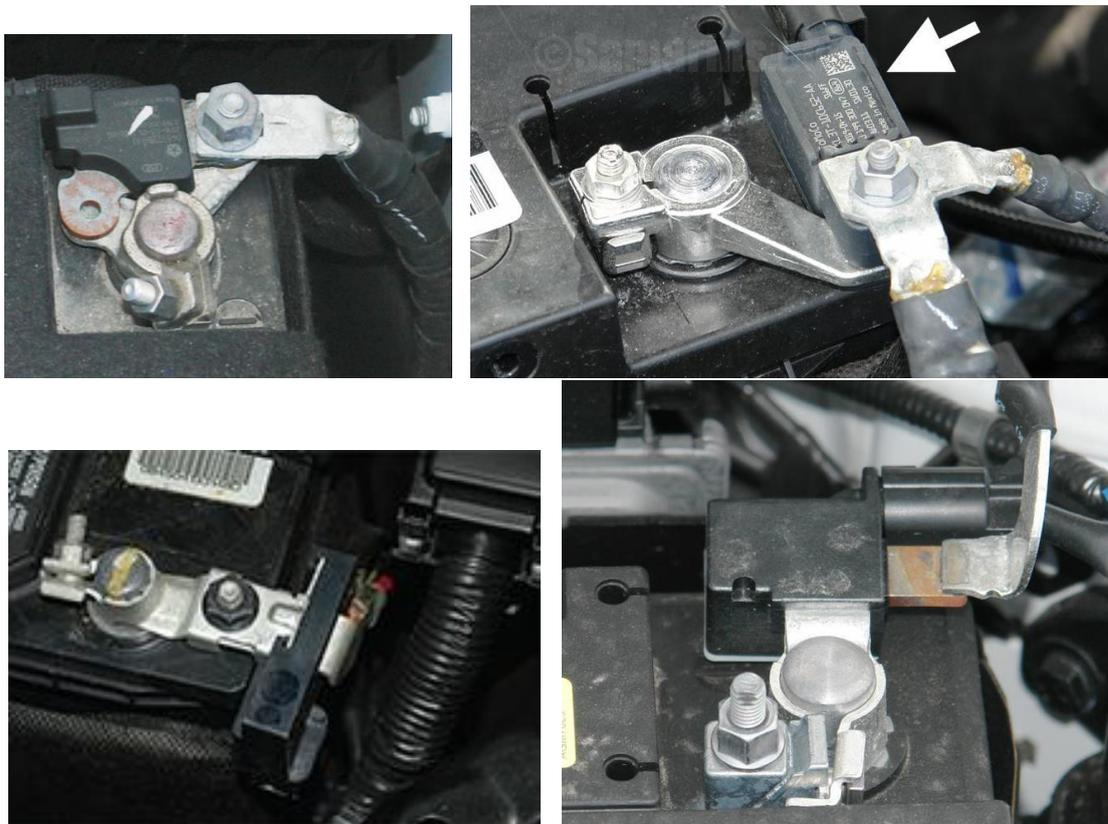

Fig.1 Various Current Sensors attached to the Negative Battery Terminal
- Under no circumstances should a jump start clamp be connected to a battery terminal which has a current sensor attached (see Fig.1).